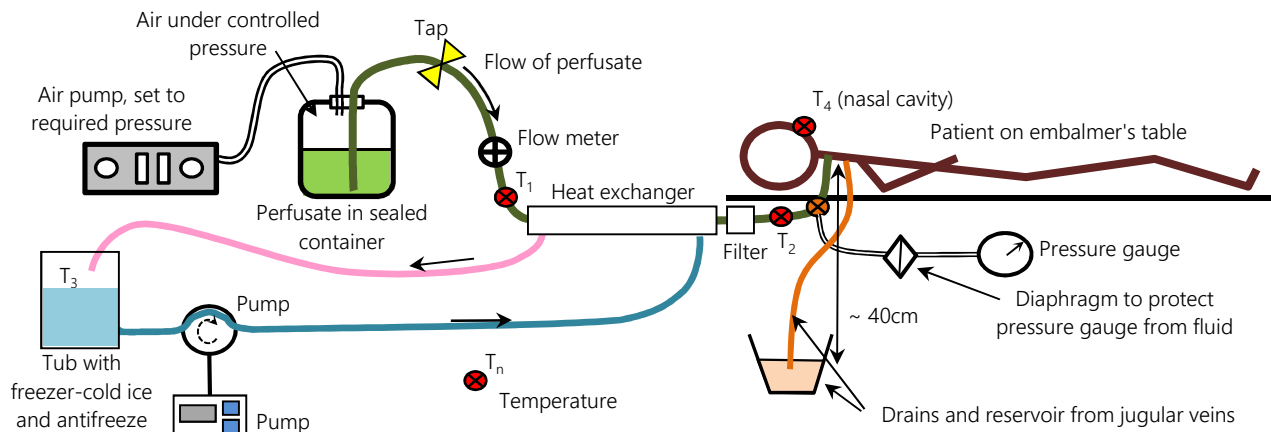
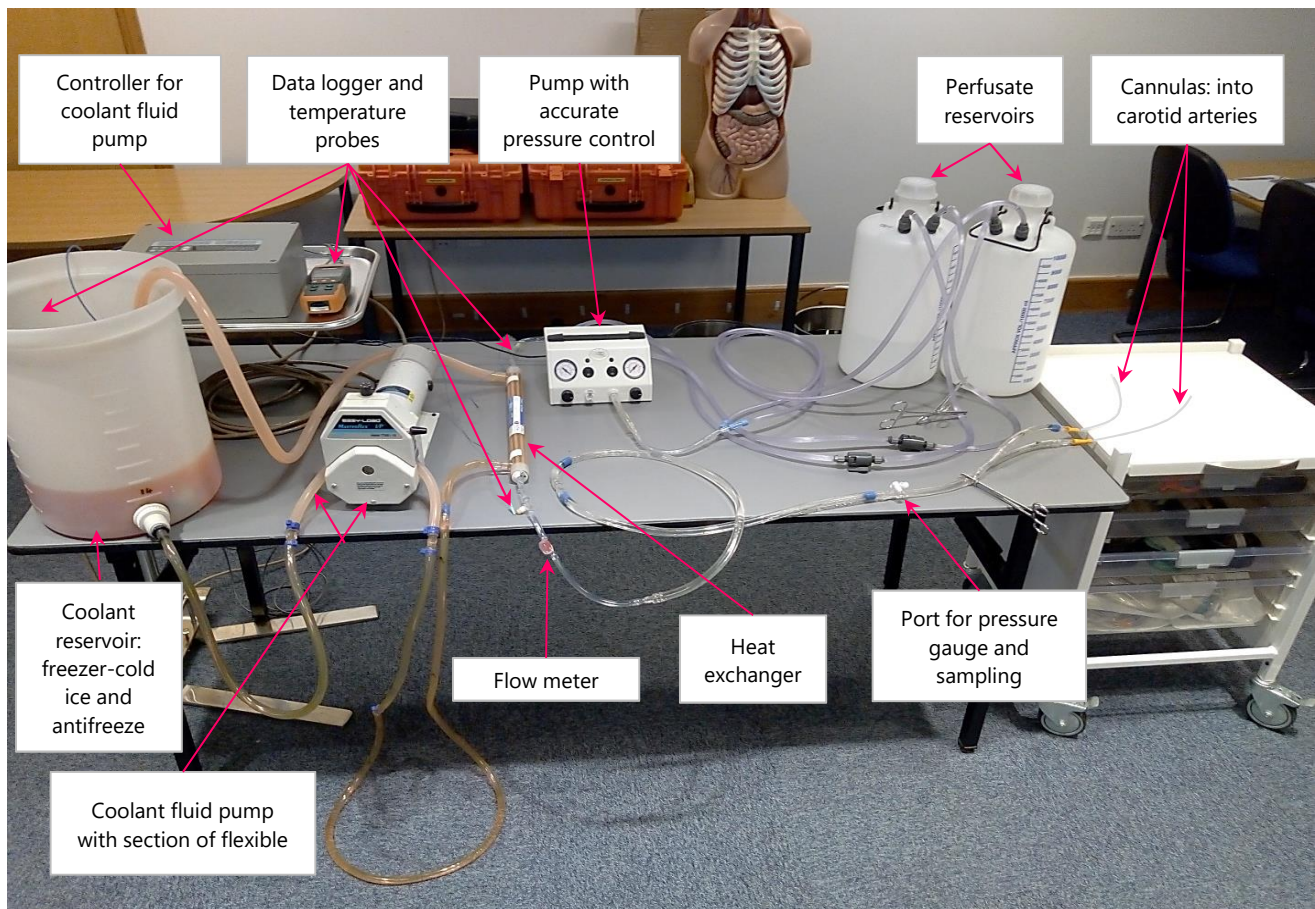
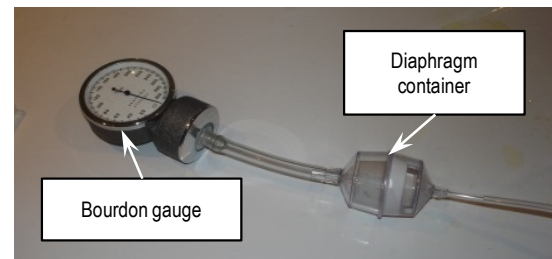

Figure 5.23 *Essentials of the perfusion pressure system*
Figure 5.24 Perfusion pressure system equipment
Figure 5.26 Pressure gauge with diaphragm
Figure 5.23 shows a simplified schematic of the system. In practice, there will be two reservoirs connected in parallel so that the system can quickly be switched over to the second reservoir once the first is nearing empty. The first reservoir can then be refilled while the second is in use. The actual equipment, with two reservoirs, is shown in Figure 5.24. Full details of the tubing are shown in Appendix A.
- Assemble the tubing including filter, flow meter, temperature probe ports (T_1, T_2), pressure gauge with diaphragm, Y-connector and carotid cannulas as shown in Figures 5.23 and 5.24 and Appendix A.
- Connect the air inlet tube to the right-hand pump outlet and the fluid outlet tube to the flow meter, as shown in Figure 5.23.
- Set up the pump, controller and coolant fluid tub in a convenient location and connect the controller to the mains and to the pump. Connect up the heat exchanger tubing as shown in Figures 5.23, to 5.25, then clamp the silicone tubing section in the pump roller head (Figure 5.24). Coolant fluid should ideally flow through the heat exchanger in the opposite direction to perfusate flow though, in practice, the direction of flow will have little influence.
A pressure gauge is normally located in the tubing just before the patient's head, as shown in Figures 5.23 and 5.25. This may be a standard Bourdon (dial) gauge as shown in Figure 5.26 or it may be digital. For either type, the gauge is connected to the system via a diaphragm as shown in the Figures.
- the diaphragm is stretched to the top or bottom within its container (Figure 5.26) - it must be unstretched in a central position.